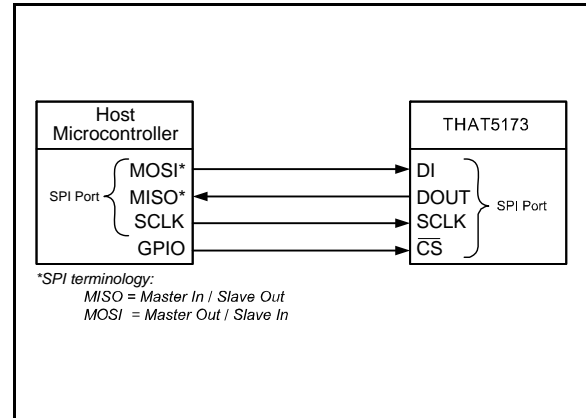

Figure 4. Single 5173 connected to a host microcontroller.
The SPI port consists of four signals: Chip Select (CS), Data In (DIN), Data Out (DOUT), and Serial Clock (SCLK). Figure 4 shows a single 5173 device connected to the SPI port of a typical host microcontroller. A command sequence is initiated when CS makes high to low transition. Data is clocked into DIN on rising edges of SCLK, through an internal 16-bit shift register which holds the 5173 configuration, and then out the DOUT pin on falling edges of SCLK. CS makes a low to high transition at the conclusion of a command sequence. The DOUT pin is tristated while CS is high so that multiple devices can be connected to a single SPI MISO port on a host processor.